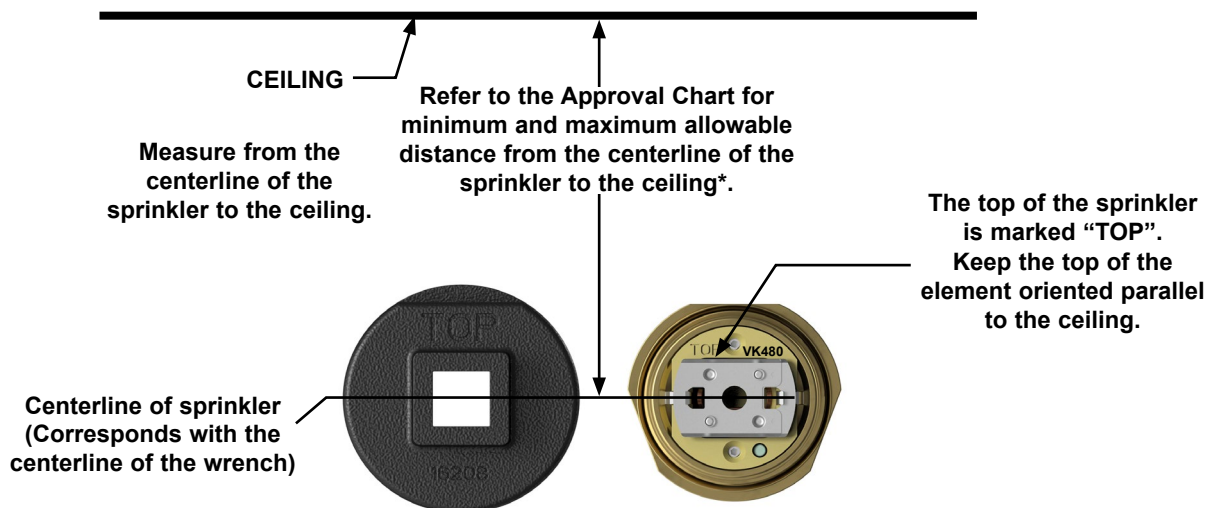

Figure 3: Sprinkler VK480 Correct Deflector Orientation
- **THE TOP OF THE SPRINKLER BODY AND THE TOP OF THE INSTALLATION WRENCH ARE MARKED "TOP".** Orient the top of the sprinkler element parallel with the ceiling as shown in Figure 3.